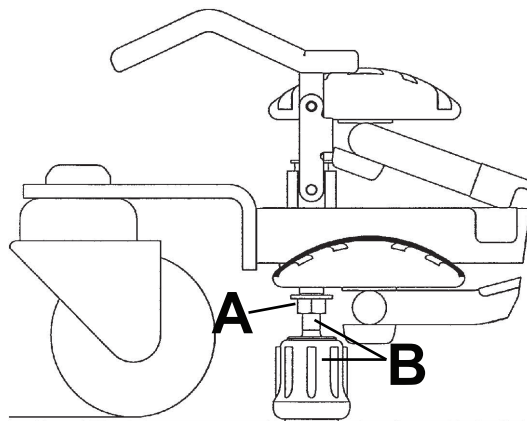

Figure 3 – Brake adjustment
1. Using a 1/2" combination wrench, loosen the top jam nut (A) on the brake foot assembly (Figure 3).
2. Using your fingers, turn the brake shaft assembly (B).